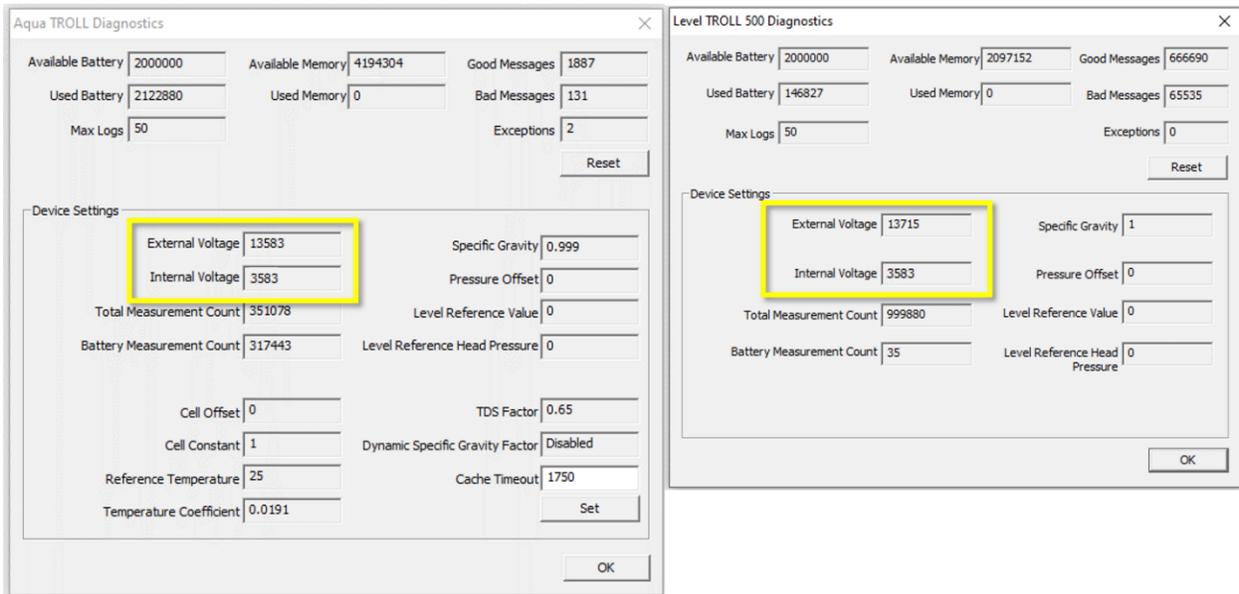

Figure 9. Aqua TROLL (left) and Level TROLL (Right) Diagnostics Window to Verify External & Internal Voltage Levels
2. In the **Diagnostics** pop-up window, monitor and verify the **External Voltage** and **Internal Voltage** under the **Device Settings** section for each TROLL (**Figure 9**). In **Figure 9**, the Aqua TROLL Diagnostics is on the left and the Level TROLL Diagnostics is on the right.